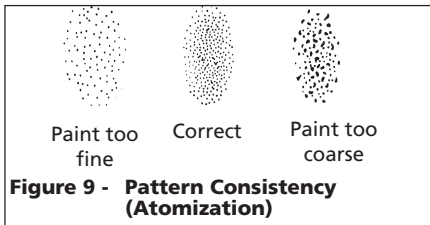

Figure 9 - Pattern Consistency (Atomization)
4. Trigger a short burst while turning fluid control knob counterclockwise. Observe the spray pattern on the target and adjust the fluid control knob until the desired pattern (atomization) is obtained (See Figure 9).
5. If the atomization is too coarse, reduce the tank pressure with the tank regulator. Trigger a short burst or open relief valve to relieve the pressure, then increase pressure slowly to obtain proper pattern consistency (See Figure 9).